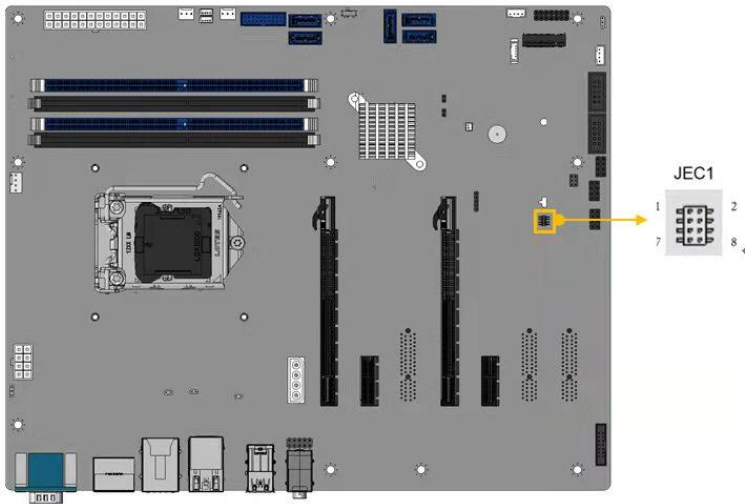

Figure 3-28: Flash EC ROM Connector Location
- CN Location: See Figure 3-28